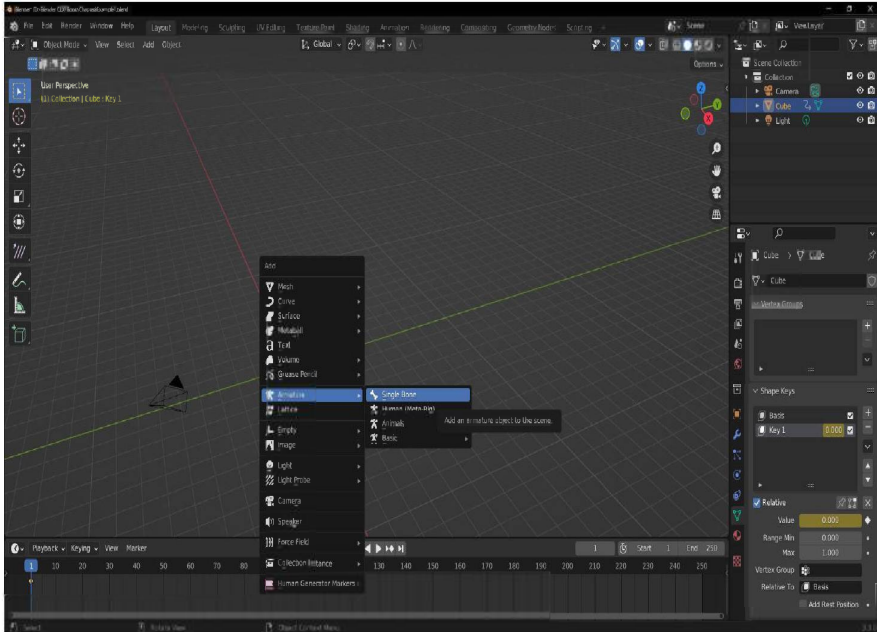

Figure 8.10: Adding a single bone Armature to the scene
13. In **Object Mode**, bring up the **Add** menu and add an **Armature | Single Bone** as shown in *Figure 8.10*: